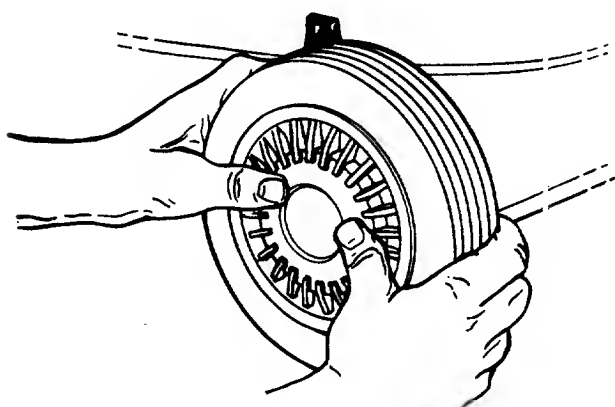

FIGURE 6.—Optional Hub Caps
2. If your mower is equipped with 2" wide tires, place hub caps in position against the inner hub of the wheel. Press firmly around the center portion of hub cap in a circular motion, similar to installing a lid on a round, plastic container. See figure 6. The hub caps are flexible and will snap over the 3½" diameter wheel hubs.